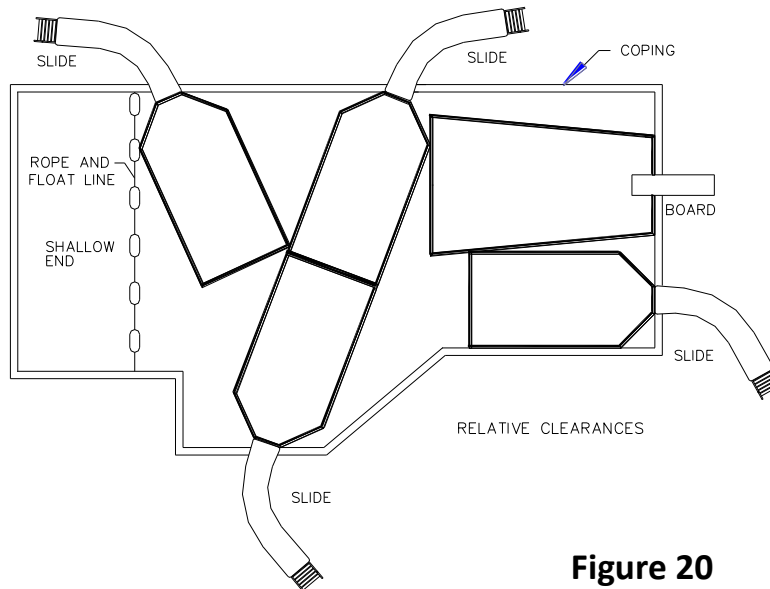

Figure 20
of the board's centerline as shown in Figure 20. Pt.C extends a minimum distance of "C" from the tip end of the board as shown in Figure 20. The width distance "W" on either side of Pt.C is given in CHART 1 and shown in Figure 20.
- B. The minimum clearance area of a slide or diving board shall not intersect any coping or rope and float line. (See Figure 20) The minimum clearance area of a slide or diving board may intersect each other provided that they are not used simultaneously.